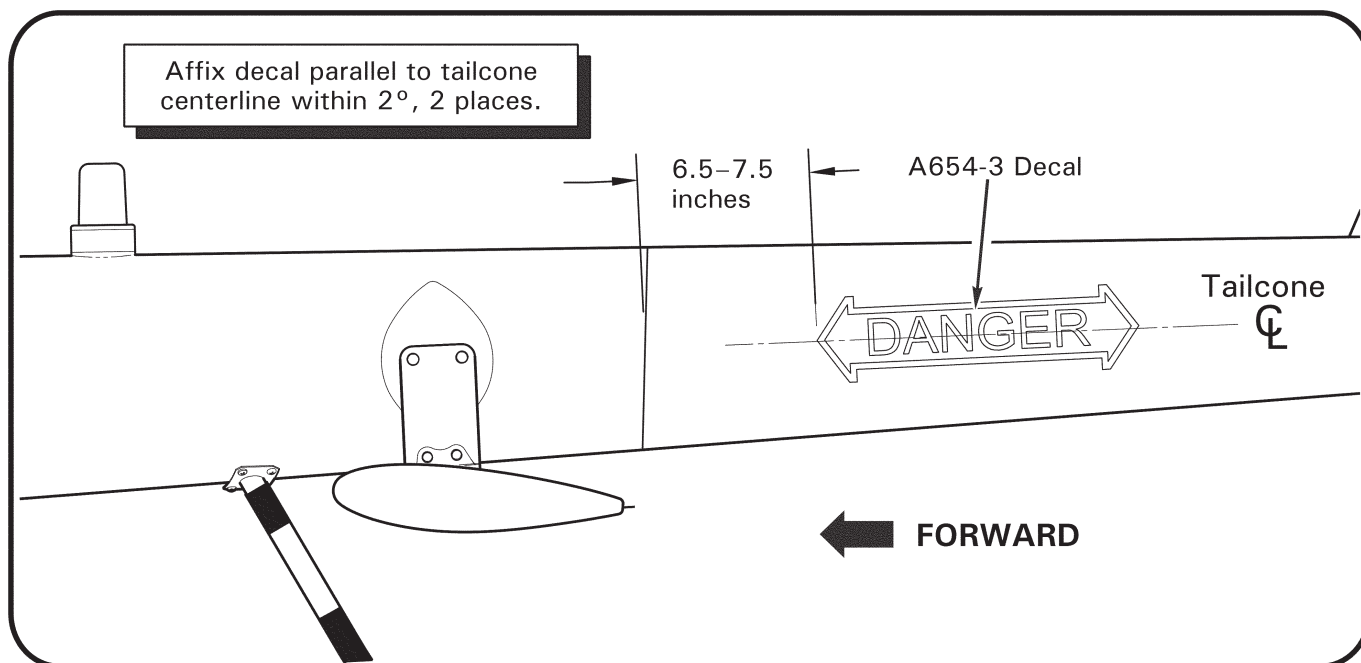

FIGURE 11 A654-3 decal installation
25. Refer to Figure 11. Install A654-3 decal to both sides of tailcone in location shown, per MM §11-10.